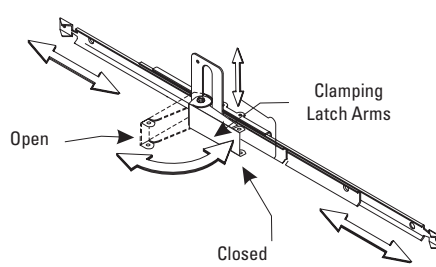
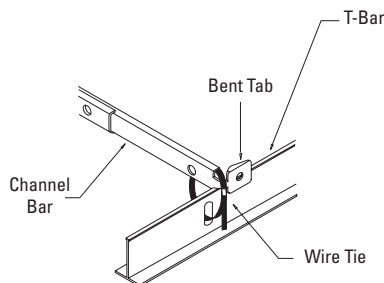

Figure 1
Figure 2
2. Position mounting frame through opening in ceiling. Release clamping latch arms and adjust channel bars to the correct spacing between T-bar as shown in Figure 1. Secure channel bars to T-bar by means of wire ties, screws, or by bending ends onto T-bar as shown in Figure 2.
4. If additional security is required, a No.8 sheet metal screw, wire tie or wire (not supplied) may be used to tie the latch arm to the mounting frame as shown in Figure 1.
1. Release clamping latch arms and adjust channel bars to the correct spacing between joists as shown in Figure 1.